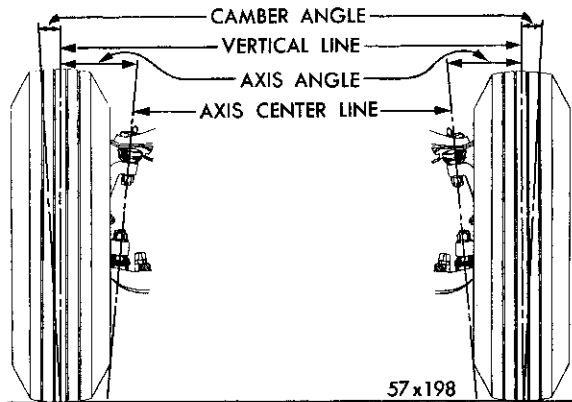

Fig. 17—Camber Angle Axis Inclination
**Camber** is amount that front wheels lean outward or inward from the vertical, when viewed from front of car (Fig. 17). With positive cam-